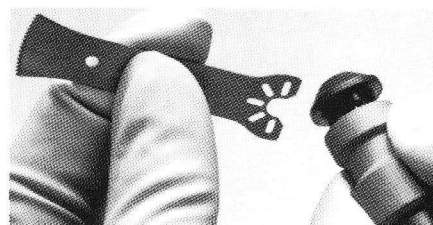

Figure 12
2. Insert the blade (oriented in the desired direction) so that the slots of the blade fit over the fins on the handpiece. See Figure 12.